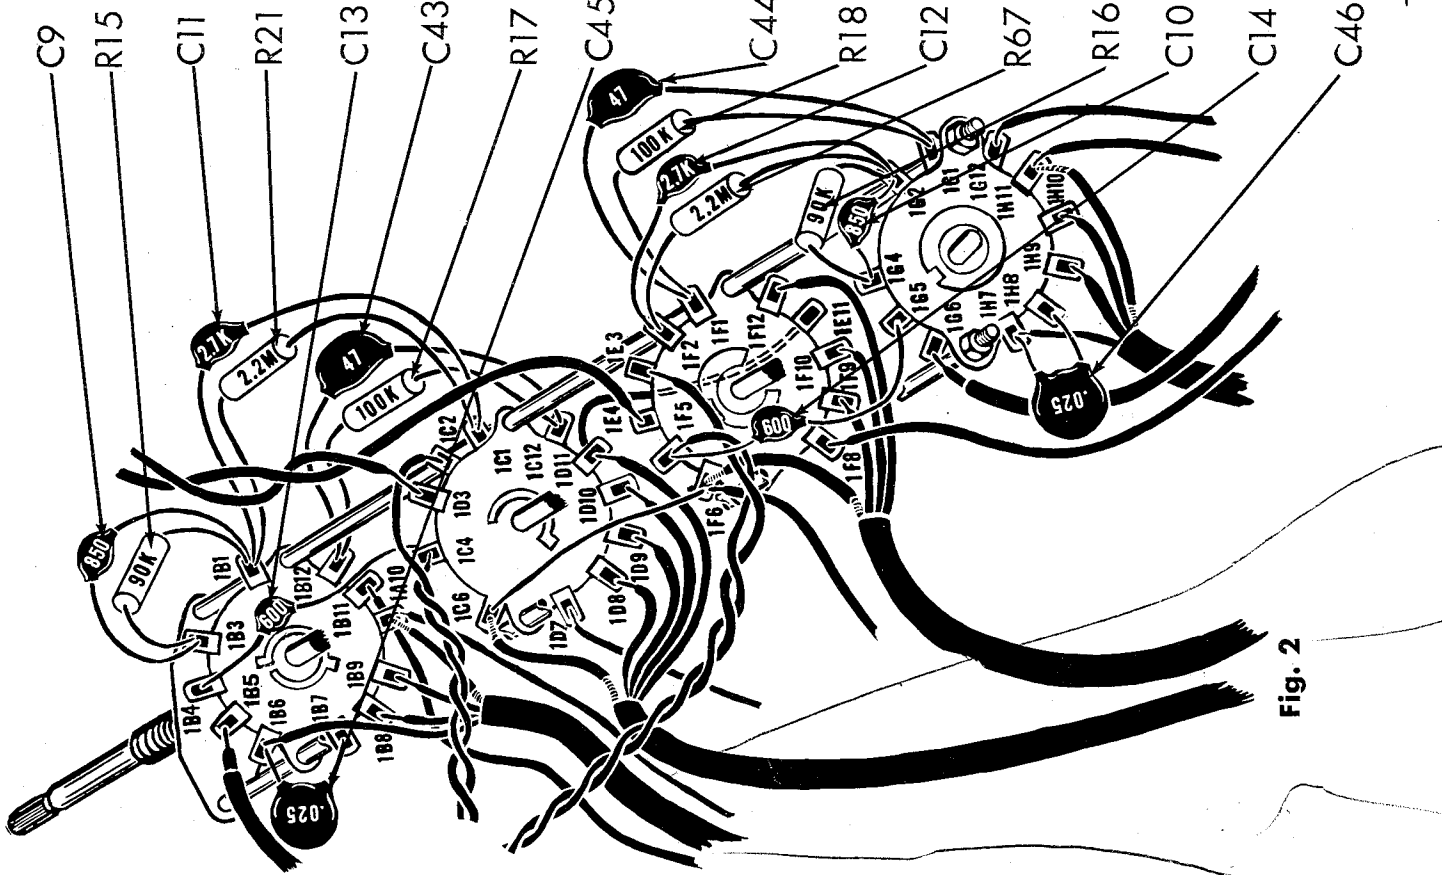

Fig. 2
1. (✓) Fig. 2. Cut all leads on two .025 mfd (25K or 25,000 mmf) disc capacitors, C45 and C46, to 3/4". Cover each lead with a 1/2" piece of spaghetti. Connect C45 from S1B-6 (C) to S1B-7 (S1). Connect C46 from S1H-7 (C) to S1H-8 (S1).
2. (✓) Fig. 2. Cut all leads on two 90KΩ (white, black, orange, gold) 5% resistors, R15 and R16, to 1/2". Connect R15 from S1B-3 (C) to S1B-1 (C). Connect R16 from S1G-2 (C) to S1G-4 (C).
3. (✓) Fig. 2. Cut all leads on two 850 mmf disc capacitors, C9 and C10, to 3/4". Connect C9 from S1B-3 (S2) to S1B-1 (C). Connect C10 from S1G-2 (C) to S1G-4 (S2).
4. (✓) Fig. 2. Cut all leads on two 2.2MΩ (red, red, green, gold) 5% resistors, R21 and R67, to 1/2". Connect R21 from S1B-1 (C) to S1C-1 (C). Connect R67 from S1F-2 (C) to S1G-2 (C).
5. (✓) Fig. 2. Cut all leads on two .0027 mfd (2.7K or 2700 mmf) disc capacitors, C11 and C12, to 1/2". Cover each lead with a 1/4" piece of spaghetti. Connect C11 from S1B-1 (S4) to S1C-1 (S2). Connect C12 from S1F-2 (S2) to S1G-2 (S4).
6. (✓) Fig. 2. Cut all leads on two 100KΩ (brown, black, yellow, gold) 5% resistors, R17 and R18, to 1/2". Connect R17 from S1B-12 (C) to S1C-12 (C). Connect R18 from S1F-1 (C) to S1G-1 (C).
7. (✓) Fig. 2. Cut all leads on two 47 mmf disc capacitors, C43 and C44, to 3/4". Connect C43 from S1B-12 (S2) to S1C-12 (S2). Connect C44 from S1F-1 (S2) to S1G-1 (S2).
8. (✓) Fig. 2. Cut all leads on two 600 mmf disc capacitors, C13 and C14, to 3/4". Connect C13 from S1B-4 (S1) to S1C-4 (C). Connect C14 from S1G-5 (S1) to S1F-5 (C).
9. (✓) Fig. 2. Strip back the outer insulation 1 1/2" from one end of a 10" piece of 3 conductor shielded cable. Twist the shield strands together and cover with a 1 1/4" piece of thick spaghetti. Cut the brown lead to 1 1/4", the red lead to 3/4" and the orange lead to 1". Strip back the insulation 1/4" from the end of each of these leads. Connect the brown lead to SIB-6 (S2), the red lead to SIB-8 (S1), the orange lead to SIB-9 (S1) and the twisted shield strands to SIA-10 (C). On the other end of the same piece of shielded cable, strip the outer insulation back 3/4". Twist the shield strands together. Strip back the insulation 1/4" from the end of each of the inner conductors. This end of the cable does not get connected until later.
10. (✓) Fig. 2. Connect one end of a 3 1/2" piece of black wire to SIA-10 (S2).
11. (✓) Fig. 2. Strip back the outer insulation 1 3/4" from one end of a 10" piece of the 4 conductor shielded cable. Twist the shield strands together and cover with a 1 1/2" piece of thick spaghetti. Cut the brown, red and orange leads to 3/4" each and the yellow lead to 1 1/4". Strip back the insulation 1/4" from the end of each of these leads. Connect the brown lead to SID-8 (S1), the red lead to SID-9 (S1), the orange lead to SID-10 (S1) and the yellow lead to SID-11 (C). Connect a 1" piece of bare wire from SID-11 (S2) to SIE-11 (S1). Connect the twisted shield strands to SIC-6 (C). On the other end of the same piece of shield cable, strip the outer insulation back 1 1/4". Twist the shield strands. Cut the red, orange, and yellow leads to 1". Cut the shield strands to 3/4". Strip back the insulation 1/4" from the end of each of the inner conductors. This end of the cable does not get connected until later.
12. (✓) Fig. 2. Strip back the insulation 1 3/4" from one end of a 9 1/2" piece of 3 conductor shield cable. Twist the shield strands together and cover with a 1 1/2" piece of thick spaghetti. Cut the brown and red leads to 3/4" and the orange lead to 1". Strip back the insulation 1/4" from the end of each of these leads. Connect the orange lead to SIF-12 (S1), the red lead to SIF-10 (S1), the brown lead to SIF-9 (S1) and the twisted shield strands to SIF-6 (C). On the other end of the same piece of shielded cable, strip the outer insulation back 1 1/4". Twist the shield strands. Cut the shield strands, red lead and orange lead to 3/4" and the brown lead to 1". Strip back the insulation 1/4" from the end of each of the inner conductors. This end of the cable does not get connected until later.
13. (✓) Fig. 2. Connect one end of a 4 1/2" piece of black wire to SIF-6 (C).
14. (✓) Fig. 2. Connect a 1 1/2" piece of bare wire from SIC-6 (S2) to SIF-6 (S3).
15. (✓) Fig. 2. Strip back the outer insulation 1 1/4" from one end of a 7 1/2" piece of 3 conductor shield cable. Twist the shield strands together,
16. (✓) Fig. 2. Connect one end of a 2" piece of black wire to SIH-11 (S2).
17. (✓) Fig. 2. Connect one end of a 2 1/2" piece of grey wire to SIB-11 (S1).
18. (✓) Fig. 2. On one end of a 4 1/2" piece of single conductor shielded cable, strip the outer insulating back 1/2". Twist the shield strands together and cut off. Strip back the inner insulation 1/4" and connect to SIB-5 (S1). On the other end of the same piece of shielded cable, strip back the outer insulation 3/4". Twist the shield strands together. Strip back the inner insulation 1/4". This end of the cable does not get connected until later.
19. (✓) Fig. 2. Connect one end of a 5" piece of brown wire to SID-7 (S1).
20. (✓) Fig. 2. Connect one end of a 3" piece of brown wire to SIF-8 (S1).
21. (✓) Fig. 2. On one of a 4" piece of single conductor shielded cable, strip the outer insulated back 1/2". Twist the shield strands together and cut off. Strip back the inner insulation 1/4" and connect to SIG-6 (S1). On the other end of the same piece of cable, strip the outer insulation back 3/4". Twist the shield strands together. Strip back the inner insulation 1/4". This end of the cable does not get connected until later.
22. (✓) Fig. 2. Connect one end of a 3" piece of grey wire to SIG-12 (S1).
23. (✓) Fig. 2. Connect one end of a 5" piece of grey wire to SID-3 (S1) and one end of a 5" piece of yellow wire to SIE-4 (S1). Twist the two leads together.
24. (✓) Fig. 2. Connect one end of a 4 1/2" piece of green wire to SIC-2 (S1) and one end of a 4 1/2" piece of blue wire to SIC-4 (S2). Twist the two leads together.
25. (✓) Fig. 2. Connect one end of a 5 1/2" piece of brown wire to SIE-3 (S1) and one end of a 5 1/2" piece of white wire to SIF-5 (S2). Twist the two leads together.